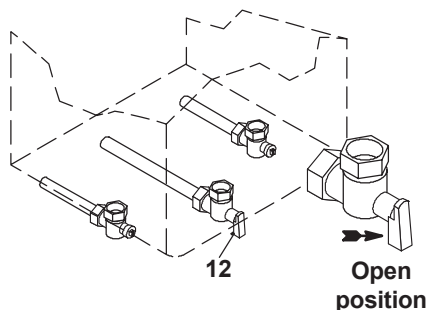

Fig. 7.1
- Open the gas cock 12 (Fig. 7.1) on the appliance and check the gas connector on the appliance for leaks.